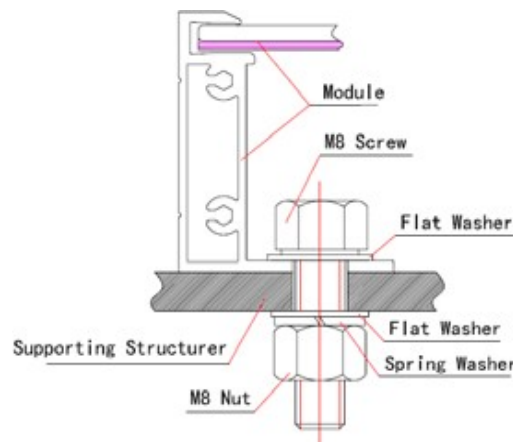

FIG 6 Bolt fitting method
- ✚ The module frame must be attached to the mounting system using M8 stainless steel hardware together with spring washers and flat washers in four places symmetrical on the module, as shown in Figure 6.